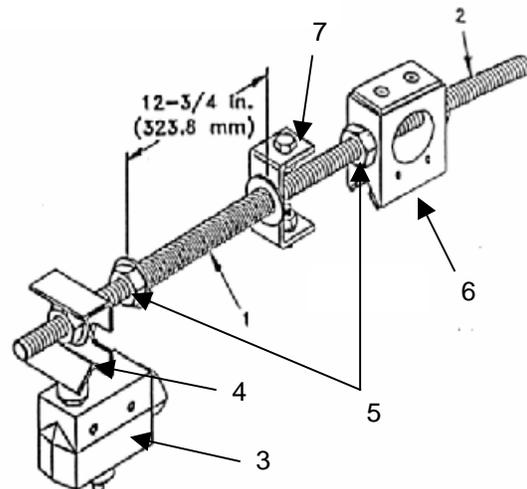

Figure 8-9c Montgomery and Montgomery KONE Carriage Spring
83. What action should you take if part #6 is against part #7 in figure 8-9c below?
84. Match the part named below with the numbers in figure 8-9c. All must be correct to get one point.
86. What is the status of part #6 in figure 8-9c when the carriage oscillates due to load change in the stepband?